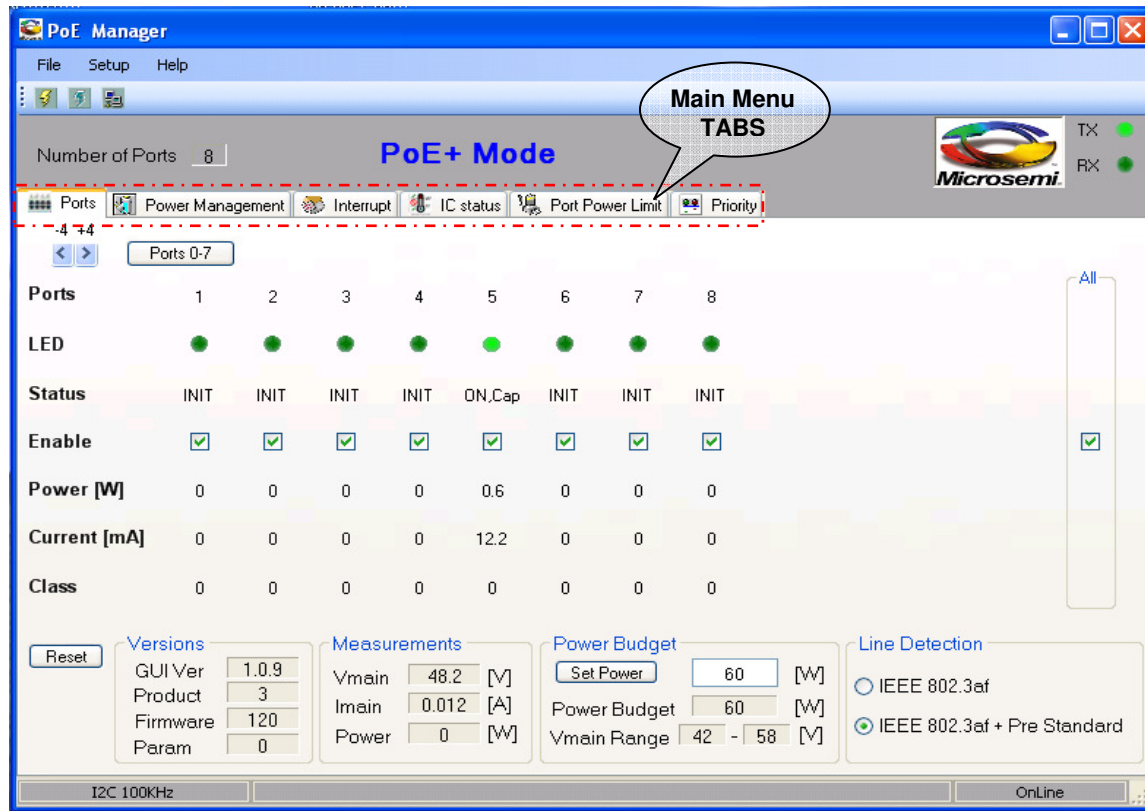

Figure 5-2: Main Screen
- 2 Run the application by clicking on the : the Parameters initialization screen, followed by the *Opening PoE+ mode* Main screen appears (see Figure 5-1, Figure 5-2) with the status bar displaying "**I²C**" + **Rate** or "**UART**" + **Com number**' and '**Online**' at the bottom of the screen:
The screen shown in Figure 5-2 appears when the Ports tab is selected. This screen comprises **Main Menu TABS** used to select the desired function, **Port Status Indicators**, indicating ports status, **Status and Port Enable checkboxes** used to enable port/s, **Power, Current, Class Measurements Field** displays measurements taken on the input power line, such as: voltage, current and calculated power. The GUI's main screen includes the following buttons, indicators and combo boxes: